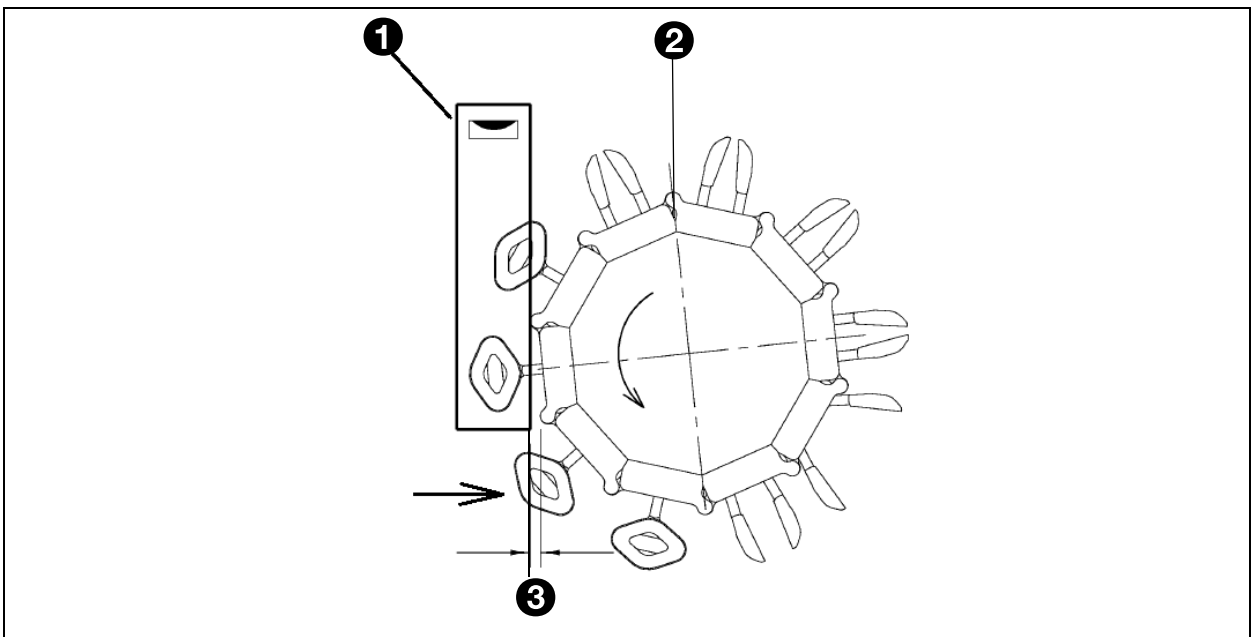

Fig. 14 - Adjustment of the closing time
- 1 Turn the machine by hand until the turning unit is located at the position shown in fig. 14.